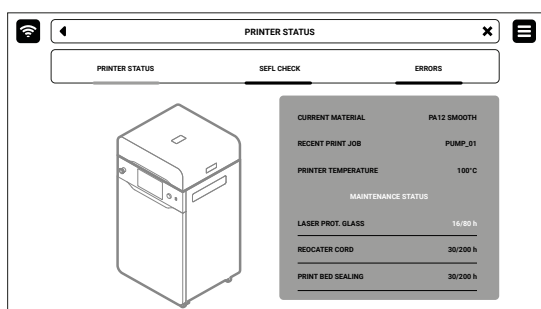

Fig. 13.2 The **PRINTER STATUS** screen.
- PRINTER STATUS** tab, in which you can check the current status of the printer and the condition of the printer components (fig. 13.2). Components requiring maintenance and cleaning are: